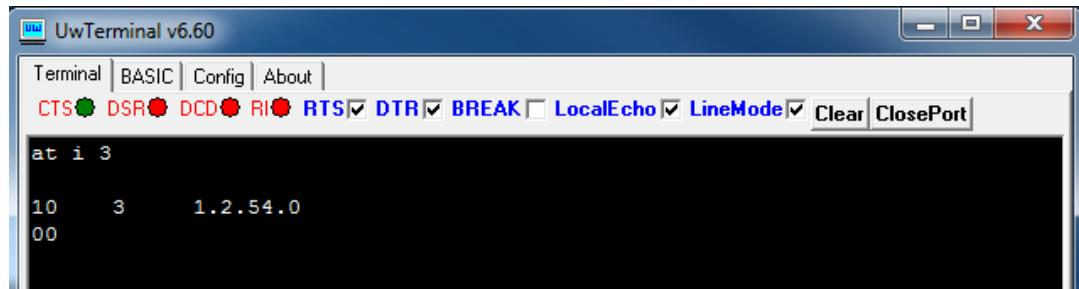

Figure 12: Issuing ATI3 to check firmware version
5. Send the string `ATI3` as shown in Figure 12: